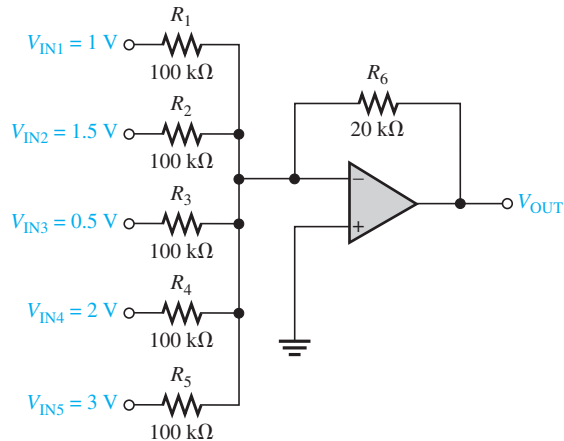

FIGURE 8–43
In Figure 8–42, assume $R_5 = 47\text{ k}\Omega$. What is the output voltage if R_1 opens?
- (a) What is the normal output voltage for the averaging amplifier in Figure 8–43?